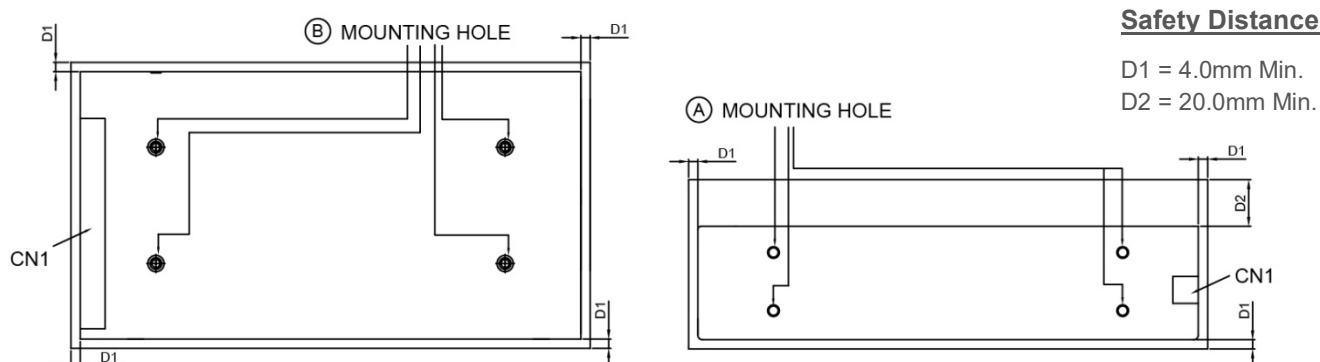
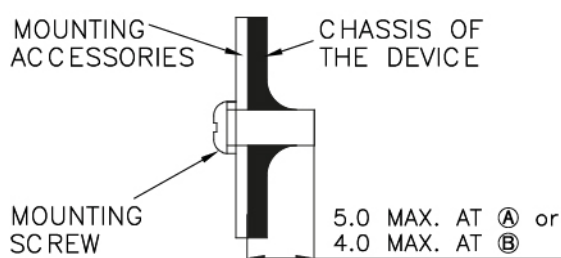

Fig. 3 Mounting Hole Locations and the Safety Distance
Fig. 4 Assembly Reference
- Ⓐ Side Mounting: Fig. 2 and Fig. 3 show the mounting hole locations for power supply assembly onto a metal mounting surface. The power supply shall be mounted on minimum of 4 mounting holes using M4 screw of maximum 5mm (0.20 inch) length (Refer to Fig. 4). This is to maintain a safety distance between the screw and internal components.
- Ⓑ Base Mounting: Fig. 2 and Fig. 3 show the mounting hole locations for power supply assembly onto a metal mounting surface. The power supply shall be mounted on minimum of 4 mounting holes using M4 screw of maximum 4mm (0.16 inch) length (Refer to Fig. 4). This is to maintain a safety distance between the screw and internal components.